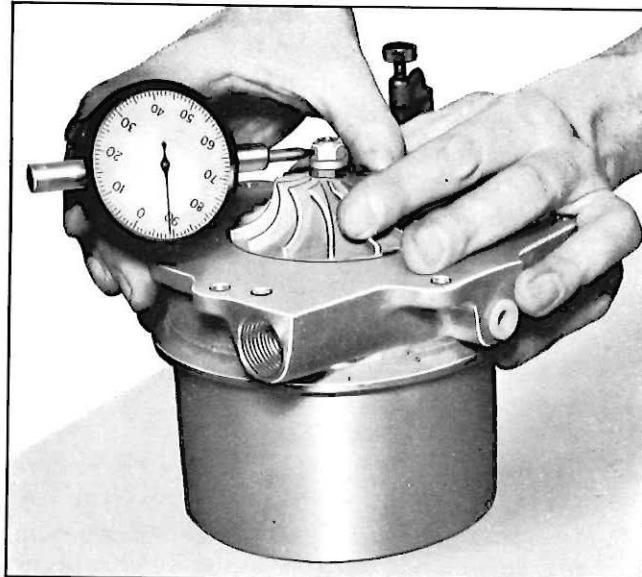

Fig. 13—Gauging Turbine Shaft Radial Play
- a. With the assembly on the support ring (Tool J-21004), position the dial indicator so its point is resting on a flat of the impeller nut (fig. 13) and needle set at zero.